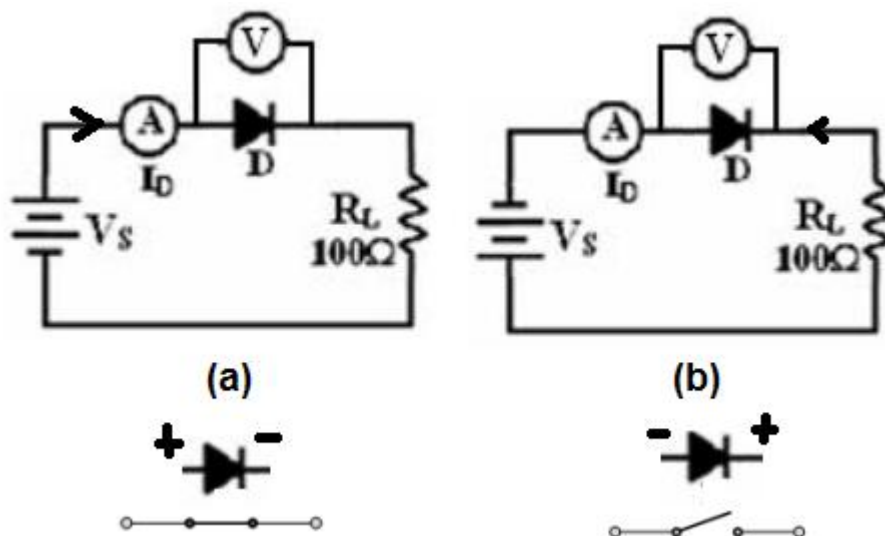
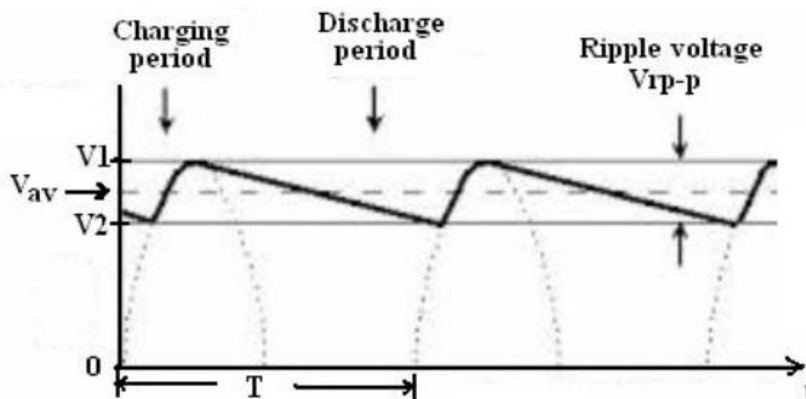

Figure 2.2 : (a) Forward biased condition and (b) reverse biased conditions
Figure 2.4: Filtered signal
If you add a capacitor in parallel with the resistor to the circuit in figure 2.2 a then you build a filtered half wave rectifier. By adding the capacitor to the circuit the signal will be smoothed out in order to obtain direct signals (it is dc only in the sense that it does not change polarity, no ripples in the signal). The capacitor will charge to the peak voltage of the rectified signal and when the rectified signal voltage falls below the capacitor maximum voltage, it start to discharge through the load resistance R shown in Figure 2.4. The discharge time for the capacitor ( $\tau = RC$ ) has to be greater than the period of the input signal (T).
- 1-Construct the circuit in figure 2.2 a.
- 1-Reverse the polarity of the voltage supply as in figure 2.2 b and repeat the previous steps with filling table in the answer sheet.